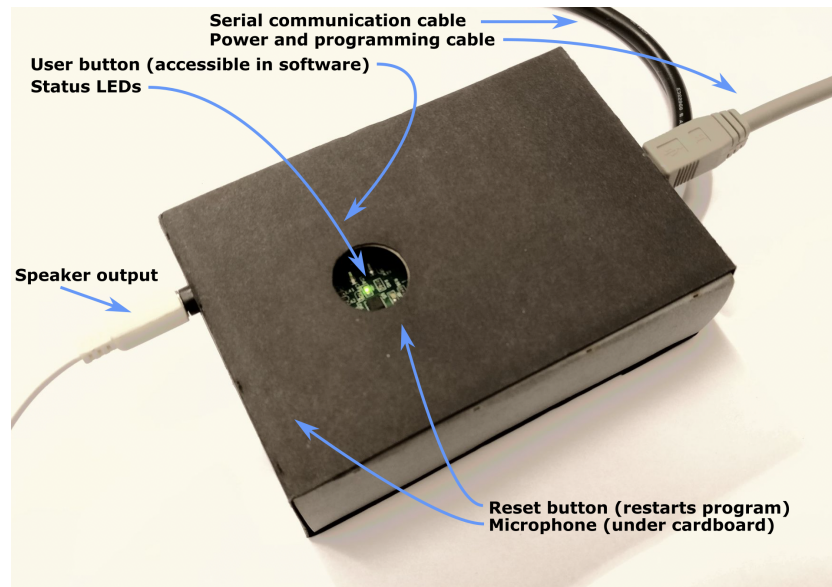

Figure 1: DSP box illustration with input/output, user buttons, and status LED's indicated.
Figure 1 shows the location of all user-accessible input/output on the DSP board. Note that the user and reset buttons are located just outside the circular cutout and are used by lightly pressing on the cardboard case, which is flexible enough to move along with the button.
7. Press the reset button (Figure 1). If all is well something like the following text will be displayed in the serial monitor window (you have to have maximized the monitor to see all the output).